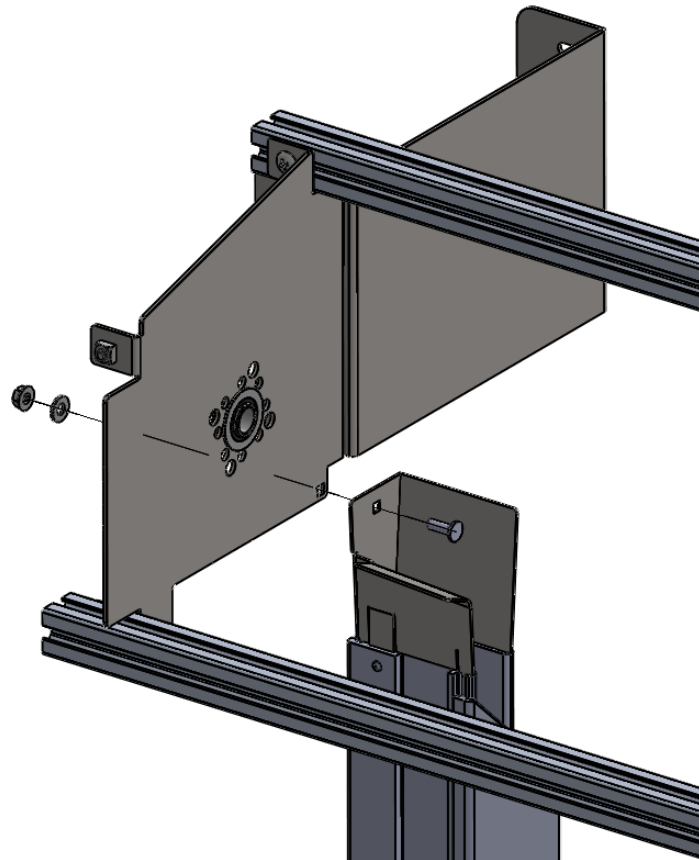

Figure 7 MOUNT TRACK TO HEADER
2. Now align the square hole in the metal Transition Bracket of the Track Assembly with the square bolt hole in the lower mounting tab on the Header bracket above. Note that the Transition Bracket of the Track Assembly should be inside of the Header bracket tab. Insert the carriage bolt from the inside of the transition and the washer and hex nut on the outside of the assembly, as shown. Just snug this hardware for now. (Figure 7 MOUNT TRACK TO HEADER)